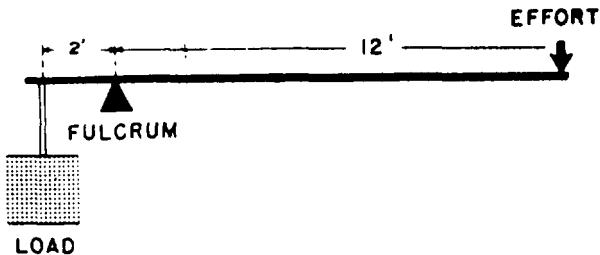

Figure 1J
- 1-26. The mechanical advantage of the lever pictured in figure 1J is